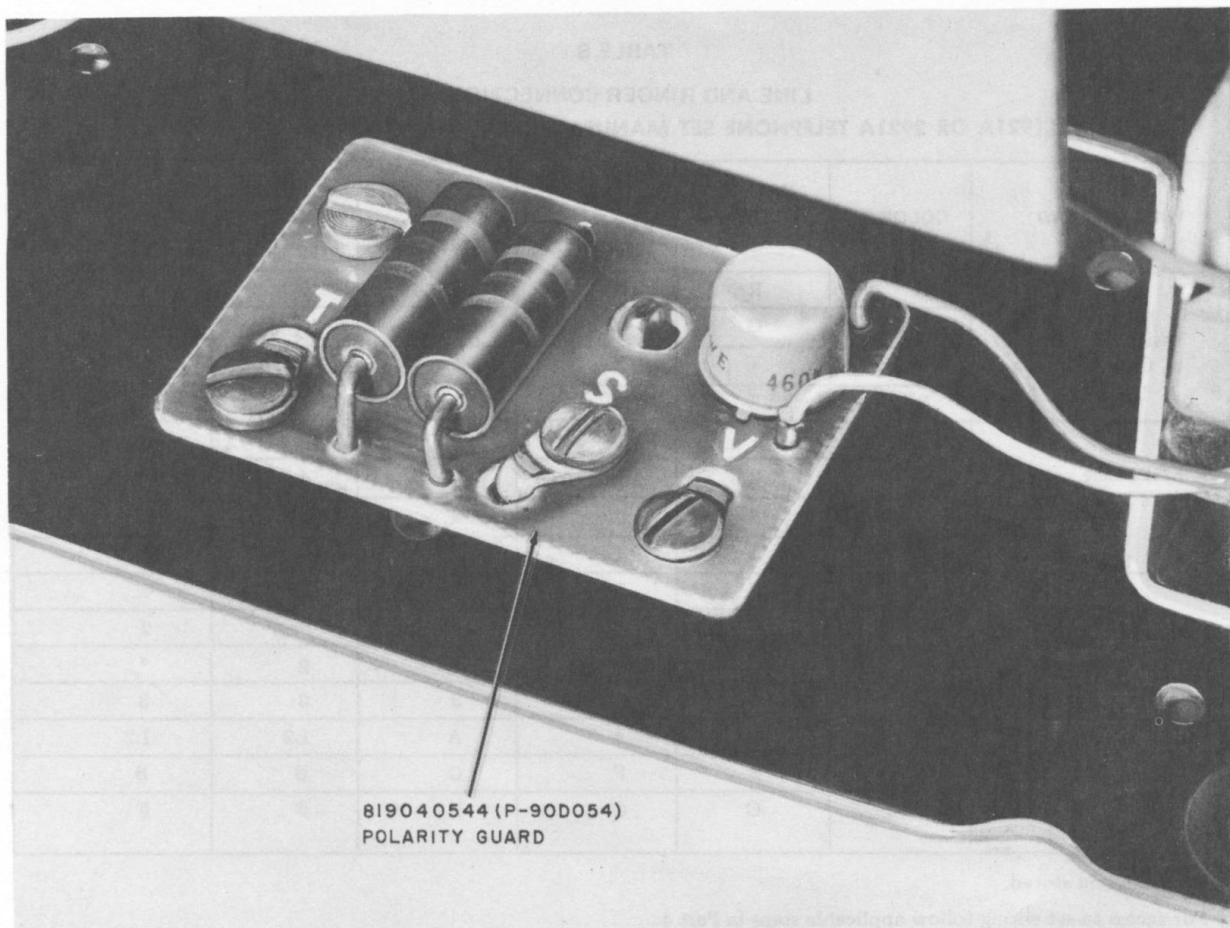

Fig. 5—D-180229 Kit of Parts for the 2921A Telephone Set Manufactured Prior to February 1975
- D-180229 Kit of Parts [Polarity Guard for 2921A manufactured prior to February 1975 (Table G) Fig. 5]
(4) Make connections as shown in Table G for telephone sets manufactured prior to February 1975, and Table H for telephone sets manufactured during or after February 1975.
(5) In 2921A telephone sets the Guard Assembly (Fig. 5) mounts on the right hand side of the dial mounting bracket with the screw contained in the D-180229 Kit of Parts. The bent tabs on the guard assembly bracket should fit over the back edge of the portion of the dial mounting bracket where the telephone set terminal board mounts. In this location the guard assembly is suspended over the ringer gong with the component facing up.